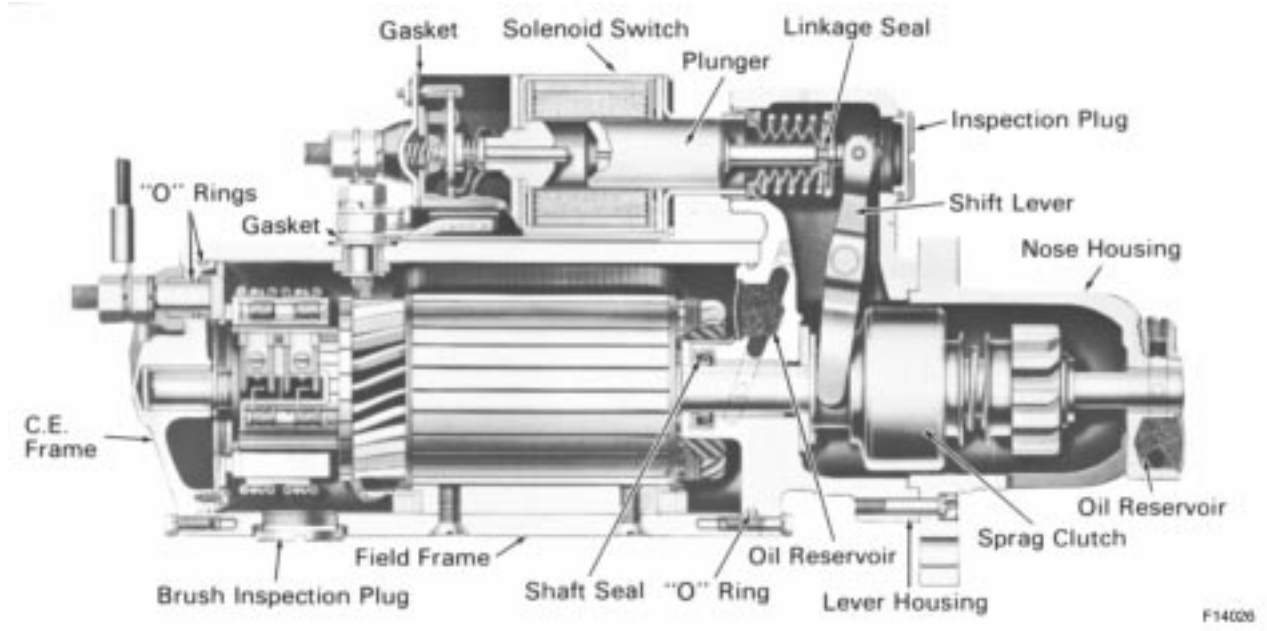

Figure 14-4. Typical Electric Starting Motor, Cross-Section
1. Disconnect motor terminal lead from solenoid terminal, Figure 14-4., on page 14-7.
3. Remove four (4) screws holding solenoid assembly to field frame and remove solenoid.
1. Lubricate armature bearings (if not previously lubricated during replacement) in commutator end frame, shift lever housing, and nose housing with non-detergent SAE No. 10 oil, Figure 14-4., on page 14-7.